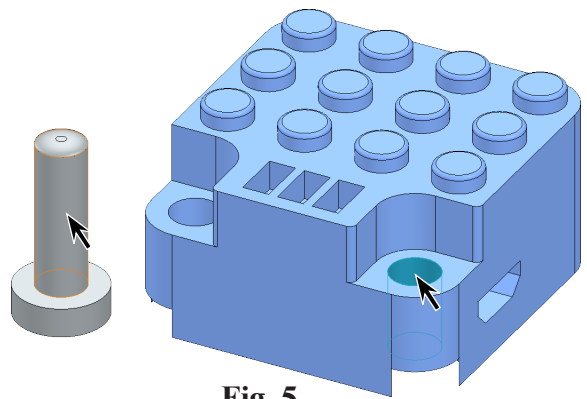

Fig. 5
Step 2. Click a **cylindrical face of Terminal** and **cylindrical face of hole in Battery**, Fig. 5.